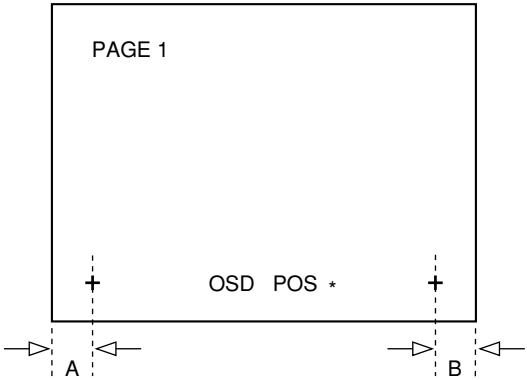

Fig.1-4
- Using the volume keys on the jig remote controller, adjust + marks on both side to be an equal distance from the edge of the screen. A=B (Fig. 1-4)